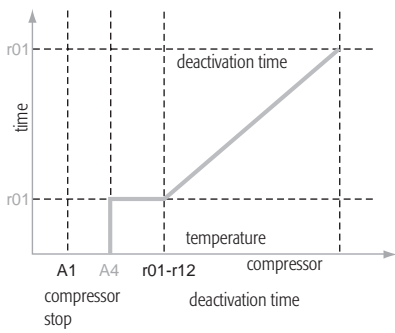

Fig. 5.b.f
**Deactivation time (cooling) Fig. 5.b.f**